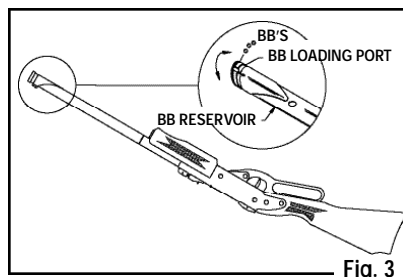

Fig. 3
- While keeping your hand away from the front of the muzzle, turn the BB loading knob until the slot in the BB loading knob is aligned with the slot in the barrel (Fig. 3).